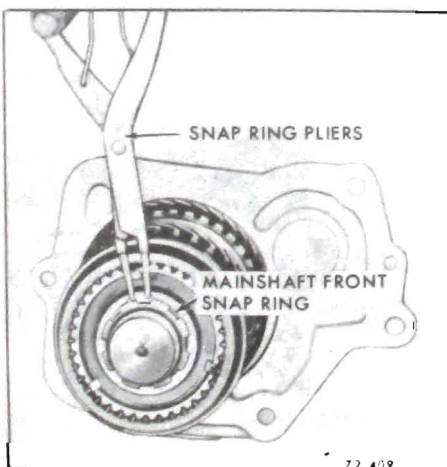

Figure 72-409 - Removing Main Shaft Front Snap Ring
1. Remove mainshaft front snap ring. See Figure 72-409 and remove third-fourth speed synchronizing assembly by holding synchronizing assembly and tapping front of mainshaft